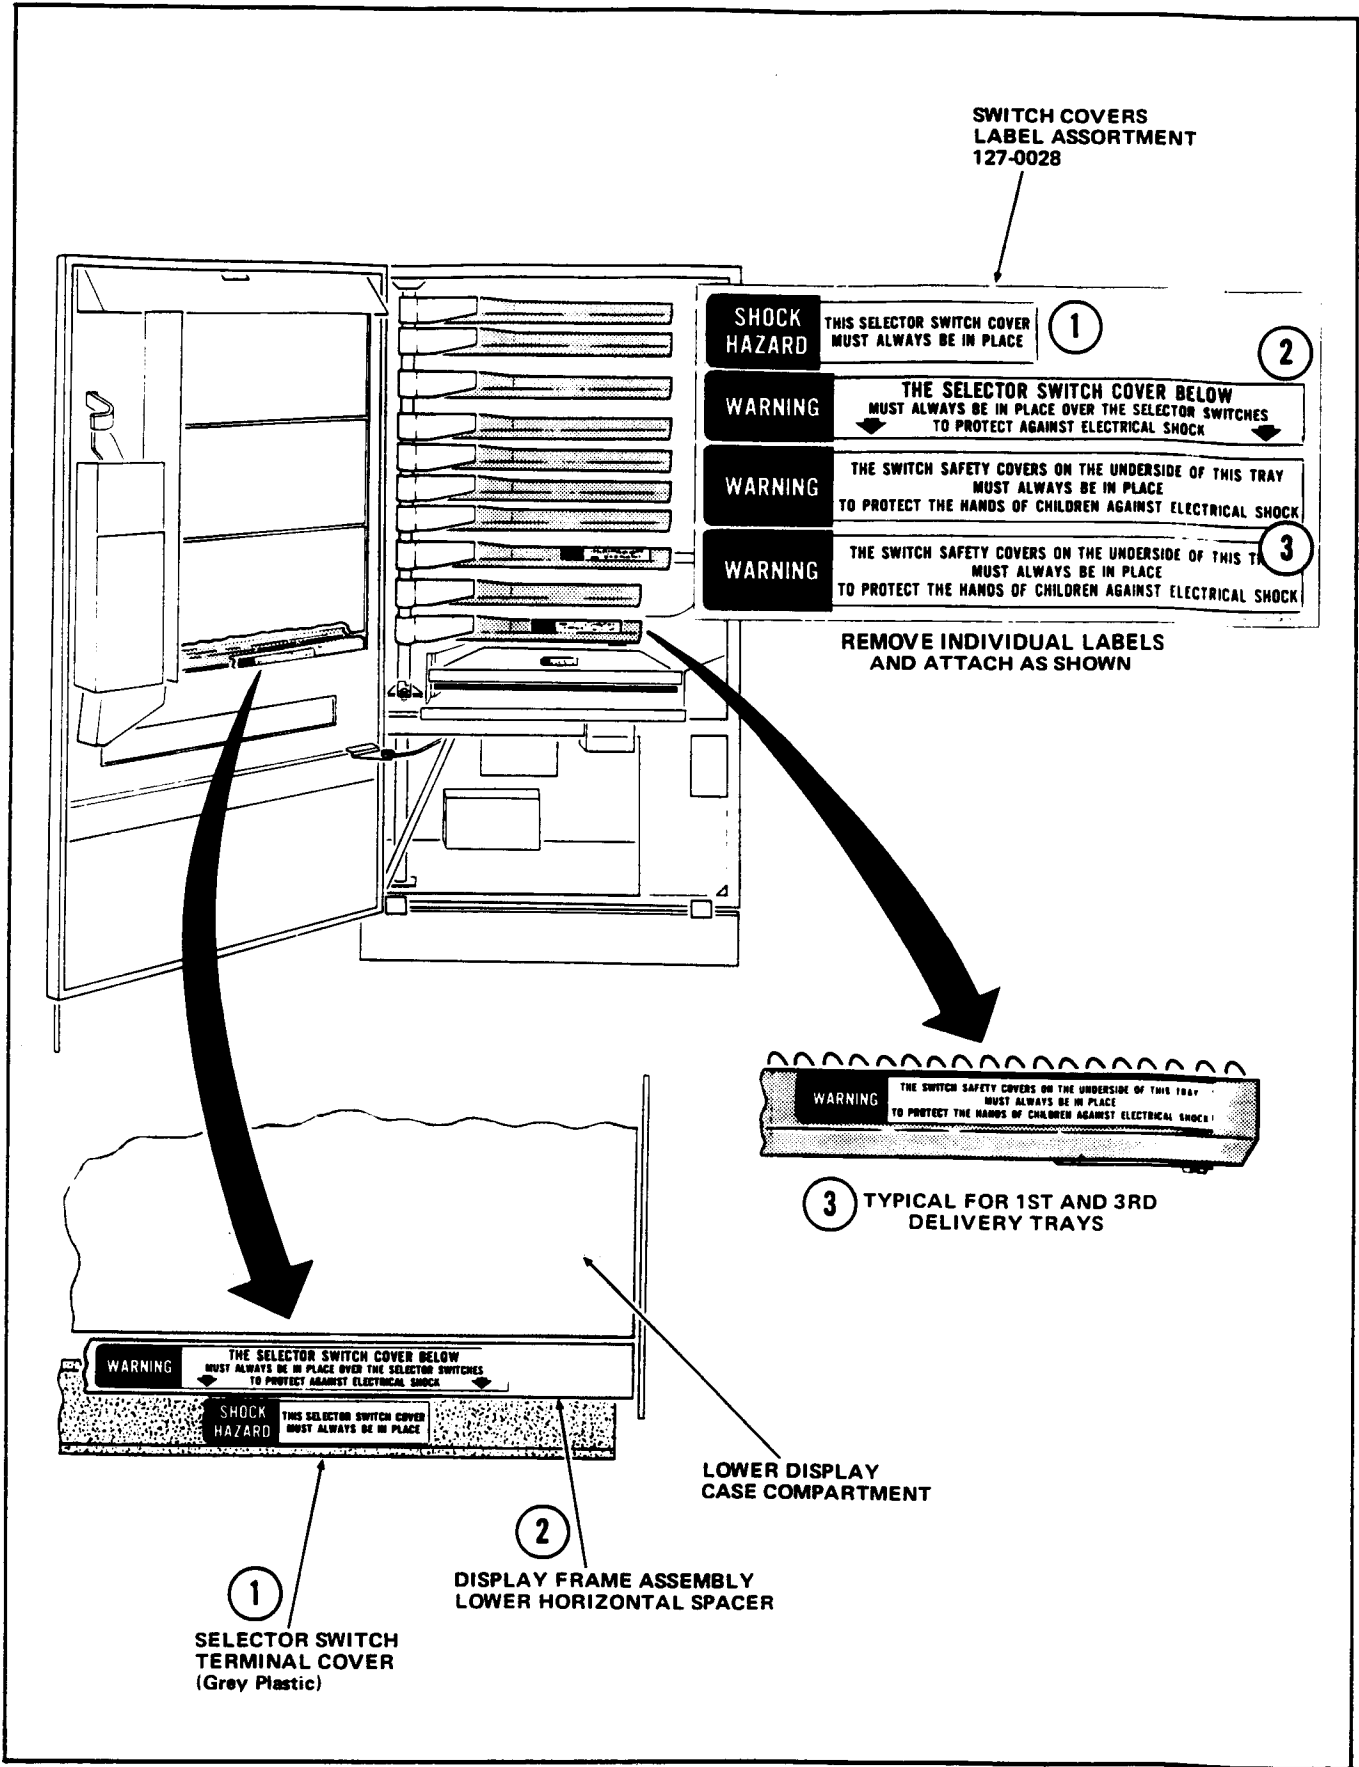

FIGURE 2
5. Peel one Switch Safety Cover Warning Label off the Switch Covers Label Assortment, Part Number 127-0028, included in the Kit, and attach it to the front of the No.1 Tray as shown in Figure 2.
6. Peel the other Switch Safety Cover Warning Label off the Switch Covers Label Assortment, included in the Kit, and attach it to the front of the No.3 Tray as shown in Figure 2.
7. Peel the Selector Switch Cover Warning Label off the Switch Covers Label Assortment, included in the Kit, and attach it to the Display Frame Assembly Lower Horizontal Spacer as shown in Figure 2.
8. Peel the Shock Hazard Label off the Switch Covers Label Assortment, included in the Kit, and attach it to the lower Selector Switch Terminal Cover as shown in Figure 2. See Warning below.